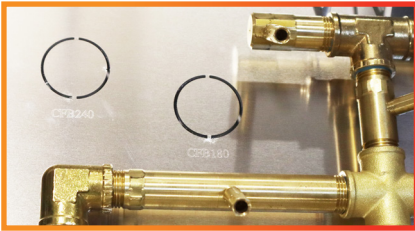

Figure 1: Pilot Assembly Knockouts
- 1.2 Locate the Pilot Assembly knockout on the plate/pan that matches your burner type and size. **{See Figure 1}**